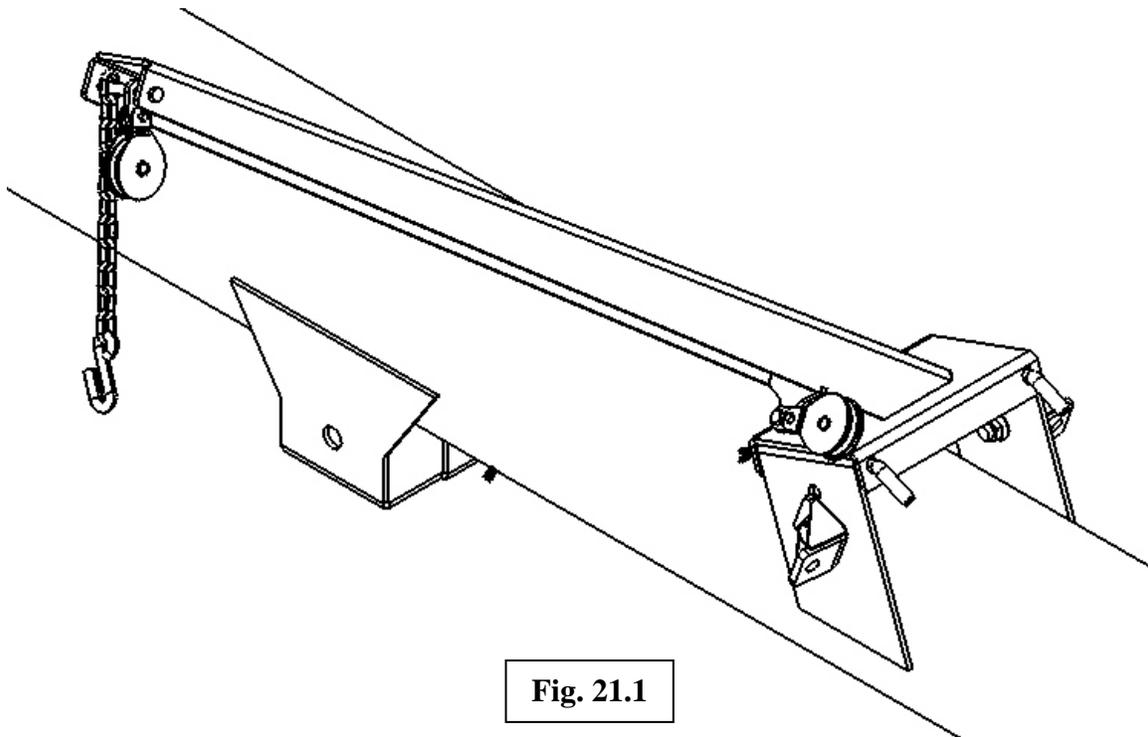

Fig. 21.1
After the left hand side winch mount bracket is secured assemble the hopper transport arm to the 1st tube. This will be done using (2) 1/2" x 7" bent pins as shown in figure 21.1.